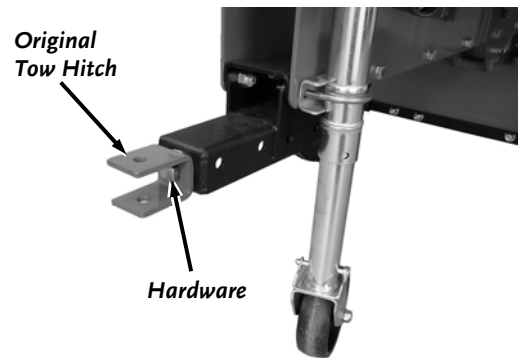

Figure 36
12. Remove the existing Hitch from the Splitter by removing the large Bolt, Washers and Locknut using a 15/16" Wrench and Ratchet with a 15/16" Socket (**Figure 36**).